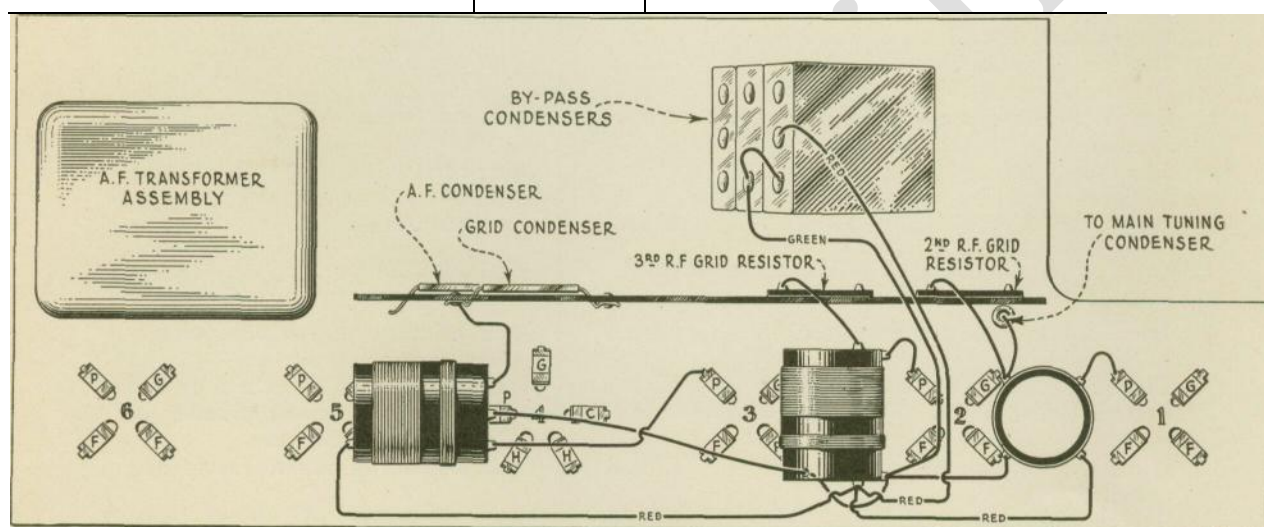

Figure 20—R. F. transformer connections and color scheme of wiring
5. Replace and resolder all leads to the three transformers and two pin jacks as indicated by the tags previously attached to them. The connections to the transformer are shown in Figure 20 and those to the pin jacks in Figure 15. These figures should be referred to when making these connections. After finishing the connections, they should be carefully checked before reassembling the Radiola.